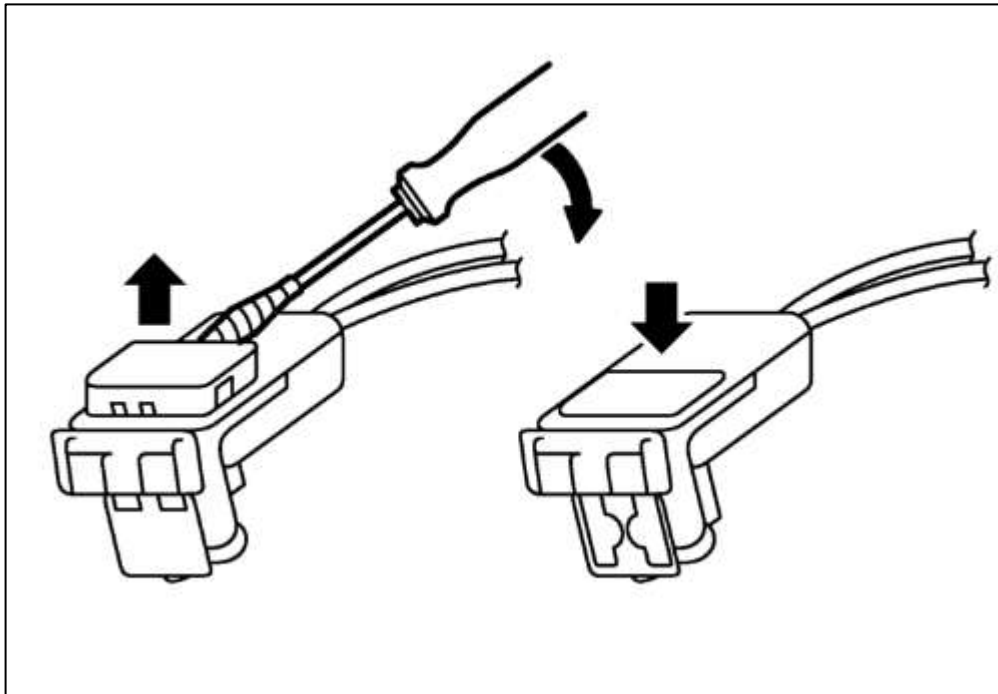

Figure 2
- Remove the Airbag from the Steering Wheel, it is held on by (2) two connectors. Disconnect them and remove the Airbag. *Figure 2.*
NOTE: The connectors have a small clip that must be pushed upwards to remove. *Figure 2.*